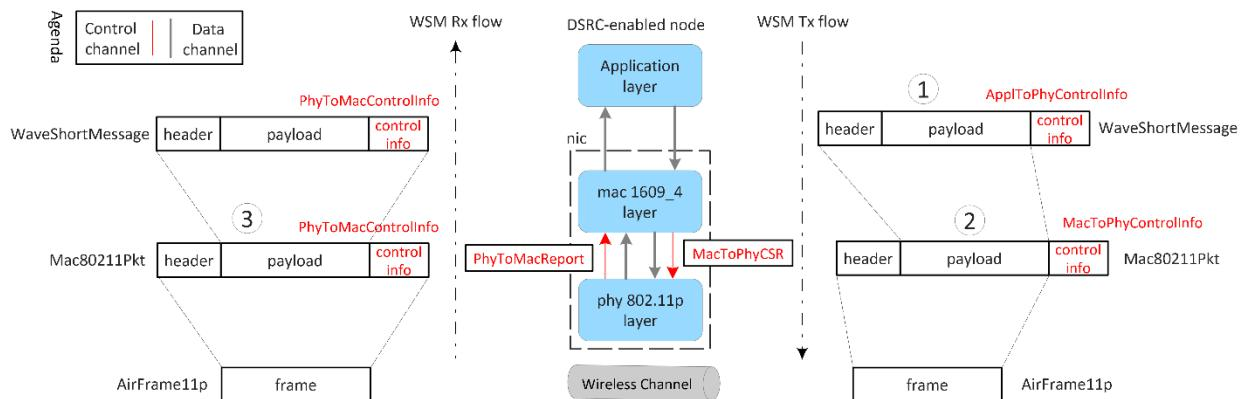

Figure 66: Transmission and reception flow of a WSM
Transmission and reception flow of a Wave Short Message (WSM) is shown in Figure 66. Application layer and MAC layer are connected directly to each other and can exchange messages using two separate data channels¹. MAC and PHY layers are also connected using two separate pairs of data and control channels.
1. Assume that the application layer generates a Wave Short Message (WSM) as marked with number 1 in Figure 66. A control data of type ‘ApplToPhyControllInfo’ can be (optionally) attached to the WSM message that specifies transmission power, data rate and modulation/coding scheme. These parameters are later used by the PHY layer. The application layer sends the WSM message down to the MAC layer.
2. In the MAC layer, the WSM message is inserted into one of the queues depending on the priority and the channel type (CCH or SCH). Priority 0, 1, 2 and 3 are mapped to background, best effort, video and voice queue respectively. As long as EDCA queues are non-empty, a WSM message is selected from the queues’ front and then encapsulated into a Mac80211Pkt packet as marked with number 2 in Figure 66. A control data of type ‘MacToPhyControllInfo’ is attached to the MAC packet that contains transmission power, data rate, modulation/coding scheme as well as the active channel’s frequency. The resulting MAC frame is sent down to the PHY layer.
- 2.** If the frame's decoding is successful, then the AirFrame11p is de-capsulated and the Mac80211Pkt is extracted. A control data of type 'PhyToMacControlInfo' is attached to the extracted MAC message as marked with number 3 in Figure 66. The control data contains the decider results for the received frame. The MAC layer sends the MAC message directly to the application layer.